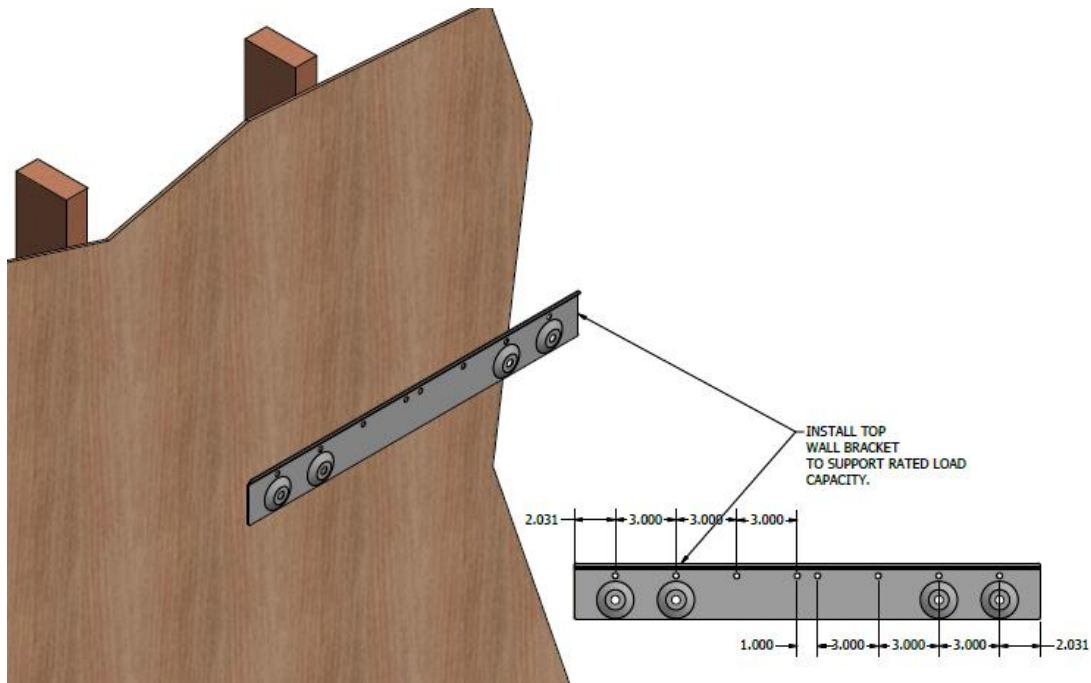

Figure 4
Step 2a: Drill pilot holes using dimensions shown in Figure 4 and apply the anchoring hardware (Not Included) to the appropriately chosen holes to support the entire weight of the rear section or enclosure (If Mid-Section & Door have not been removed) during installation. Once the top wall bracket is leveled, the anchoring hardware (Not Included) may be tightened.